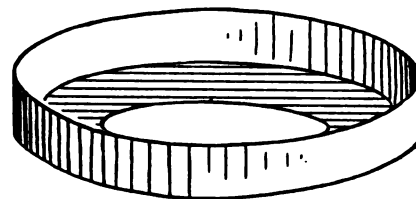
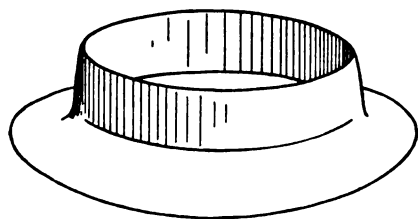

FIG. 10—ANGLE-IRON BENT TO A CIRCLE
FIG. 9—A PIECE OF ANGLE-BAR BENT TO A CIRCLE
It may be well to state here, however, how one may calculate the length of the stock needed to make an angle-bar ring. Two cases will arise: (1) where the outside flat surface of one flange becomes the inner, cylindrical surface of the finished ring (Fig. 9), and, (2) where the outside flat surface of one flange becomes the outer cylindrical surface of the finished ring (Fig. 10).